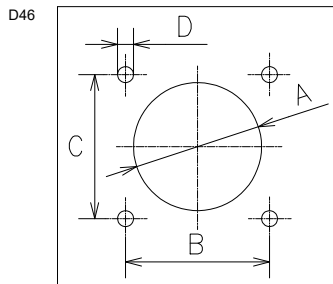
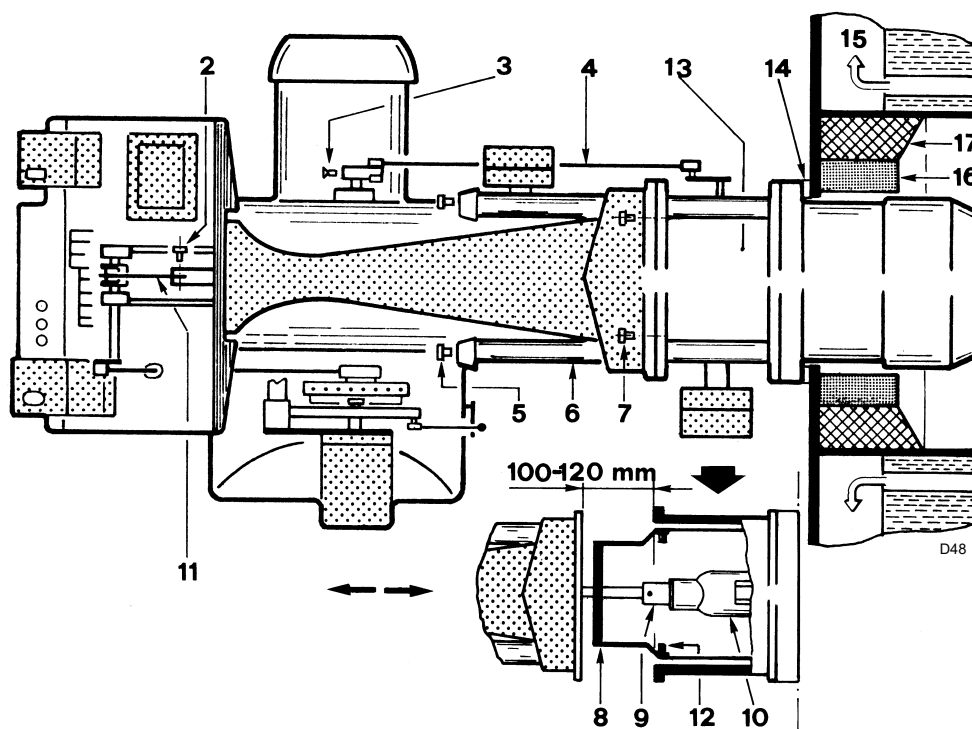
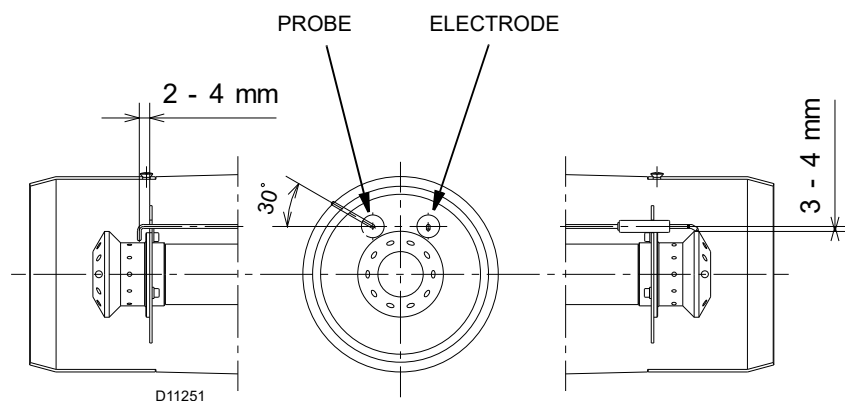

Fig. 12
Fig. 13
Fig. 14
Pierce the closing plate of the combustion chamber, as in Fig. 12. The position of the threaded holes can be marked using the thermal insulation screen supplied with the burner.
For boilers with front flue passes 9)(Fig. 13 on page 18), or flame inversion chamber, a protection in refractory material 7) must be inserted between the boiler fettling 8) and the blast tube 6).
- Remove the screws 5)(Fig. 13) from the two slide bars 6).
- Before securing the combustion head to the boiler, make sure the probe and electrode are positioned correctly as in (Fig. 14 on page 19). If the position is incorrect, remove the elbow 10)(Fig. 13) from the pipe coupling 13).
Do not rotate the probe but leave it as in Fig. 14; if it is too close to the ignition electrode, it could damage the control box amplifier.
- Fix the blast tube to the boiler plate (Fig. 12 on page 17), inserting the supplied insulating flange gasket 14)(Fig. 13).
- Then refit the burner on the slide bars 6)(Fig. 13) and the gas tube 9) into the elbow 10).
- Refit the fork 8)(Fig. 13) fixing it with the screws 12).
- Tighten the screws 7)(Fig. 13) securing the fan to the combustion head.
- Fit the retainers and the screws 5)(Fig. 13) to the two slide bars 6).
Before securing the burner to the boiler, check (through the opening of the blast tube) that the probe and electrode are correctly positioned, as in Fig. 14.
If in the previous check the position of the probe or electrode was not correct, remove the screws 7)(Fig. 13 on page 18) extract the inner part of the head 4)(Fig. 6 on page 12), and adjust them.
Respect the dimensions shown in Fig. 14.